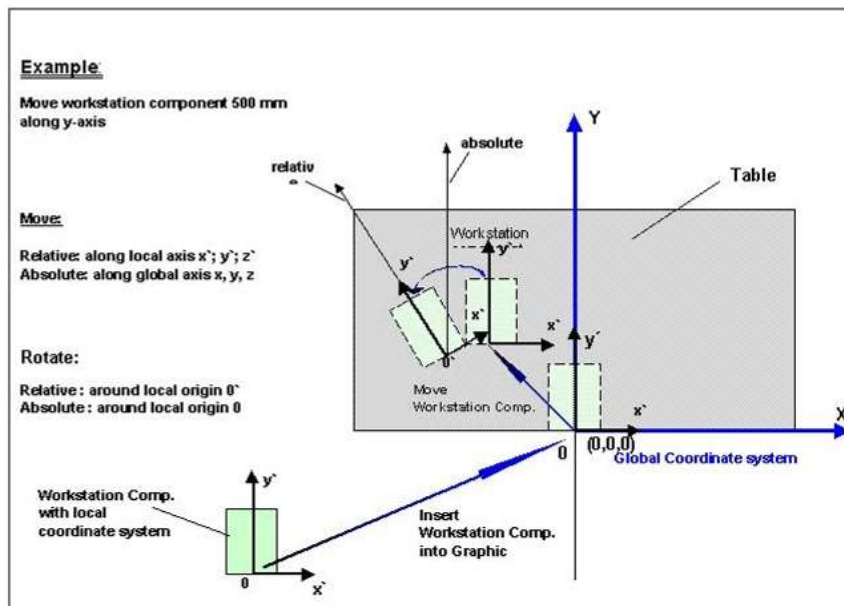

Figure 47: Example for Coordinates: Absolute/Relative
Using the Translate function, objects can be translated into a graphic. Graphic objects can be moved in the **absolute** as well as in the **relative** mode. In the absolute mode, objects are moved in the so called global coordinate system (coordinate system of the open graphic) and in relative mode in the local coordinate system of a selected graphic object. Please refer to the Figure 47.
- 7) If you select the relative coordinate system, the graphic object is translated along its own coordinates. *Please refer to the Figure 45, Figure 46, and Figure 47.*